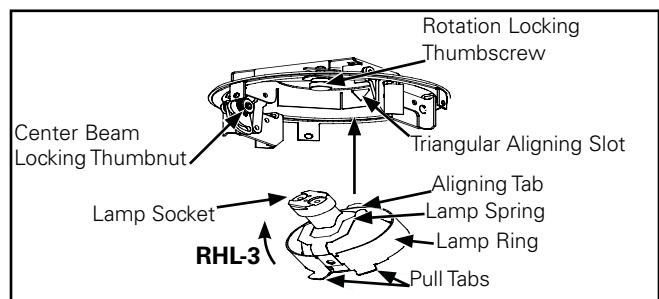

Figure 6.
1. Pull tabs down on Lamp Ring until unit disengages from the spin disc assembly (Figure 6.).
2. Insert new lamp. Ensure that the lamp is seated against the Lens and retained by the Lamp Spring. Push Socket onto Lamp (Figure 6.).
3. Feed Socket leads into can and align the Aligning Tab on the Lamp Ring with the Triangular Slot in the Adjustment Bracket. Push on tabs until unit “snaps” into place (Figure 6.).
Loosen the Rotation Locking Thumbscrew (Figure 6.). Rotate Spin Disc into desired location. Tighten Rotation Locking Thumbscrew.
Loosen the Center Beam Locking Thumbnut (Figure 6.). Insert a screwdriver in-between the Hot Adjustment Tabs, into the Adjustment Bracket. Aim beam to desired location and Tighten Thumbnut.